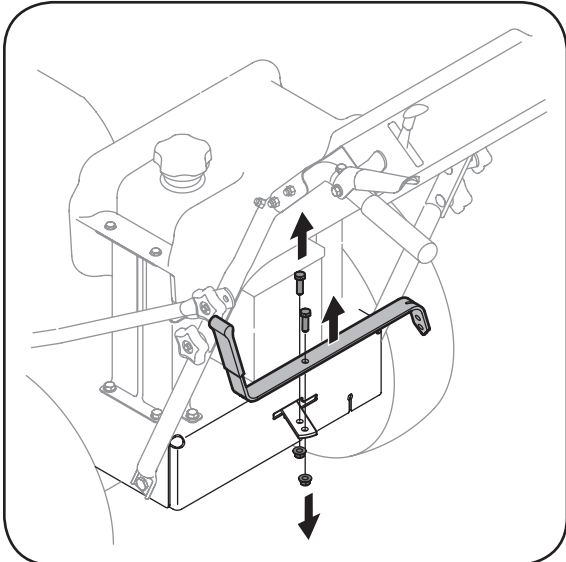

Figure 3-4: Remove shift lever and hardware from plate.
1. Remove the 5/16-18 screw and the lock nut that hold the shift lever to the shift lever plate, Figure 3-4.
2. Remove the remaining screw and nut from the lower shift lever plate, Figure 3-4.